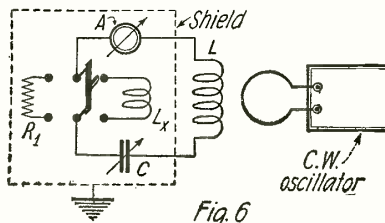

Fig. 6
**Substitution Method.** In this method, the apparatus, the resistance of which is to be measured, is replaced by a standard resistance. Suppose it is desired to measure the resistance of a coil  $L_x$  at a given wave-length. Coil  $L_x$  is connected to a circuit as in Fig. 6. This circuit contains another inductance  $L$ , whose value need not be known, a variable condenser  $C$ , a milliammeter  $A$ . A double throw double pole switch is used to connect either the unknown coil  $L_x$  or the standard resistance  $R_1$  in circuit. The oscillator is adjusted to the required wave-length and loosely coupled to the measured circuit *only through coil L*. With the D. P. D. T. switch thrown so that unknown coil  $L_x$  is in circuit, tune circuit by means of the variable condenser  $C$  to resonance with the C. W. oscillator. Carefully note the reading on the R. F. milliammeter  $A$ , and call this reading  $I_1$ .
In the second place the accuracy of the above measurement is based upon the assumption that the voltage induced in the measured circuit—factor E in the above equations—is constant in both measurements. It is permissible to assume that the C.W. oscillator generates a constant current. Hence, allowing constant coupling between the oscillator and coil L, the E. M. F., induced in coil L electromagnetically is constant. However, unless proper precautions are taken the oscillator may also induce voltages in coil Lx, which is under measurement, and which is not present in the second measurement. Hence the E. M. F.'s induced will be different in both measurements and the accuracy will be worthless. To avoid this, coil Lx should be removed as far as possible from the C.W. oscillator to prevent any such induction. Then again there is the great possibility that besides electro-magnetic induction there may be considerable electrostatic induction which may be different in both measurements, and especially on account of the absence of coil Lx in the second measurement, would not be the same. Hence the assumption of equal induced voltages on which the accuracy of the measurement depends, would be invalid. In order to avoid this unequal induction of capacity voltages the best precaution to observe is to shield the entire circuit excluding the coil L, thus concentrating the inductive action on this coil only, since it is always in circuit during the measurements. As a further precaution the shield should be grounded as indicated in Fig. 6.